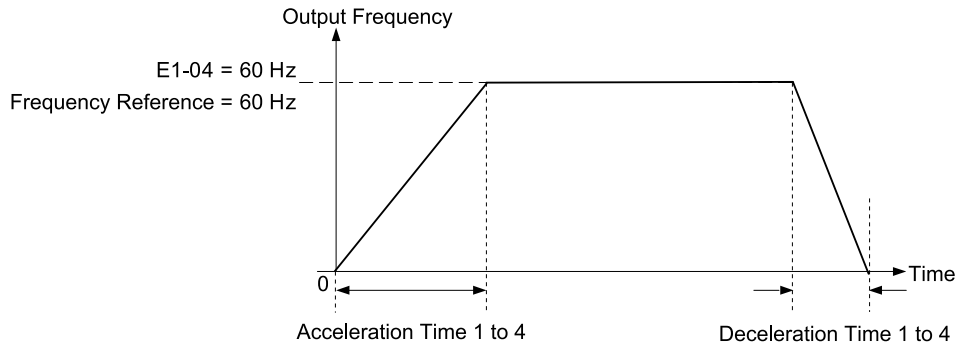
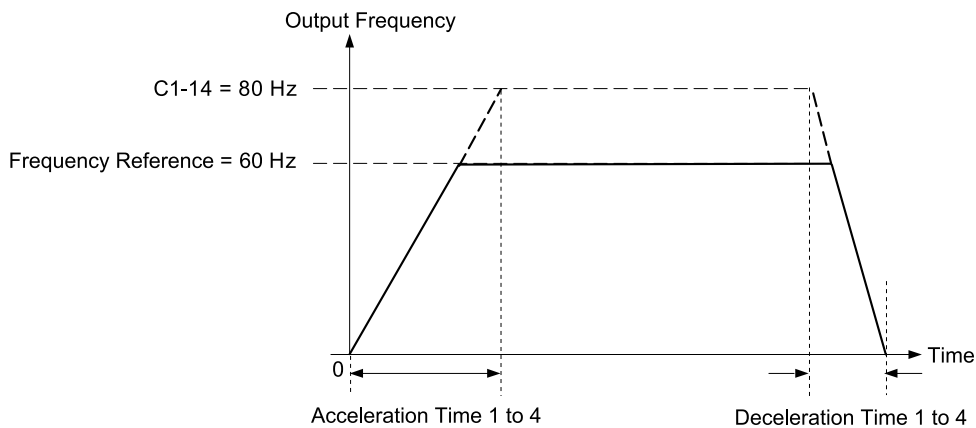

Figure 12.40 Example 1: Acceleration/Deceleration Rate (When C1-14 = 0 Hz, E1-04 = 60 Hz, and the Frequency Reference is 60 Hz)
Figure 12.42 Example 3: Acceleration/Deceleration Rate (When C1-14 = 80 Hz, E1-04 = 60 Hz, and the Frequency Reference is 60 Hz)
- Figure 12.40 to Figure 12.42 show the accel/decel times when C2-01 to C2-04 [S-Curve Times @ Start/End of Accel/Decel] = 0.00 s.